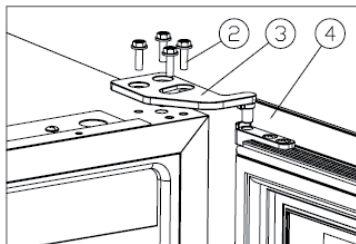

Figure 1
2. Unscrew the M5 x 16 screws (2), dismantle the right upper hinge and remove the door (see figure 1).